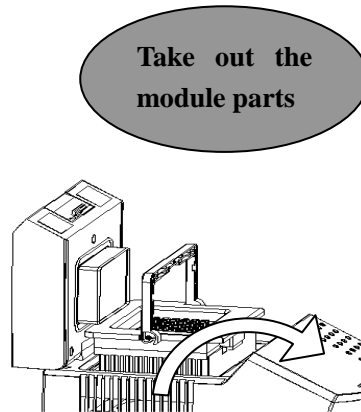

Figure 10
- Step 2: Move the module parts upward slightly, and lay it in a safe place after the module parts are completely off the shell. (See Figure 10)